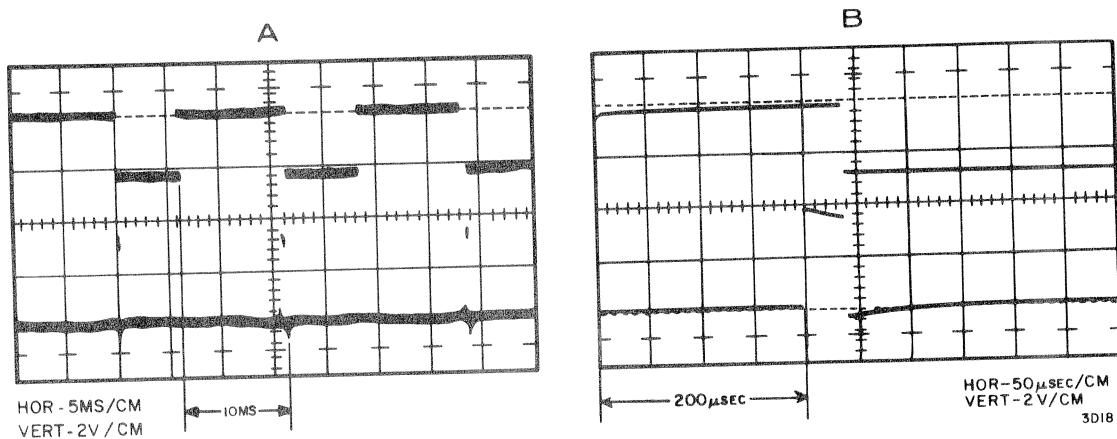

Figure 6-25. On Cylinder Delay Timing
- d. Make oscilloscope settings and trace comparisons according to Figure 6-25, part A. Adjust the potentiometer shaft on Y203 until its Output pulse is delayed by 10 ms with respect to the "0" output of I220.
- g. Make oscilloscope settings and trace comparisons according to Figure 6-25, part B. Adjust the potentiometer shaft on Y221 until its Output pulse is delayed by 200 usec with respect to the "0" output of Y203.